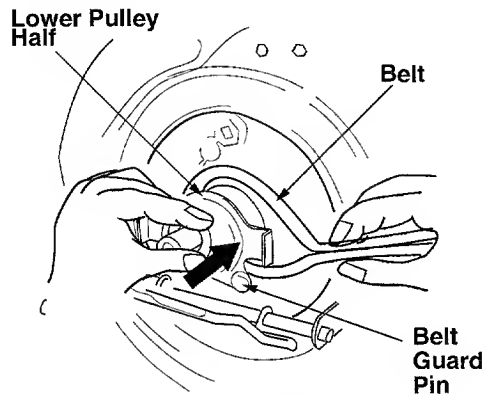

Figure 24
- Pinch belt together so that it is not in the pulley groove, and the lower pulley can be pushed towards the engine. See Figure 24.